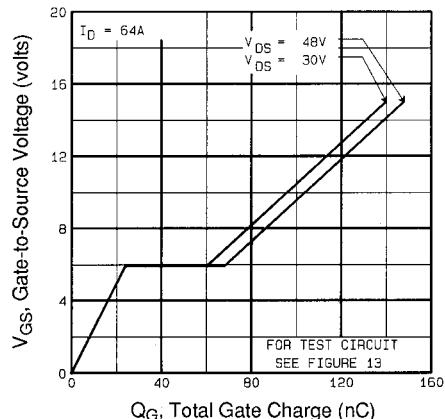

Fig 6. Typical Gate Charge Vs.
| Q_{gd} | Gate-to-Drain ("Miller") Charge | — | — | 54 | nC | $V_{GS}=10\text{V}$ See Fig. 6 and 13 ④ |